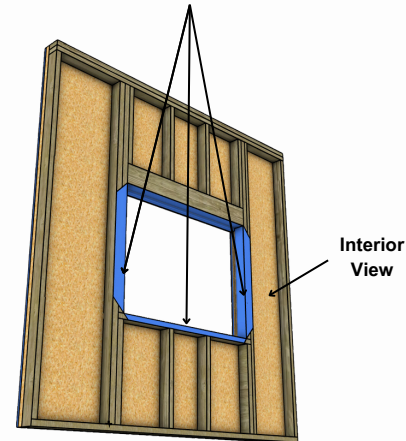

Figure 3: Cut Flap at Head and Tape
- Measure for diagonal cuts at top of window corners for both building paper and house wrap (Figure 3)